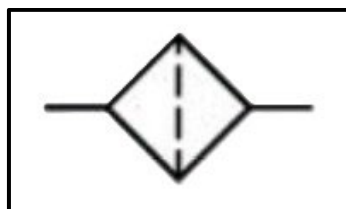

FIGURE 4.14
- 4.14 Identify the hydraulic symbol shown in FIGURE 4.14 below.